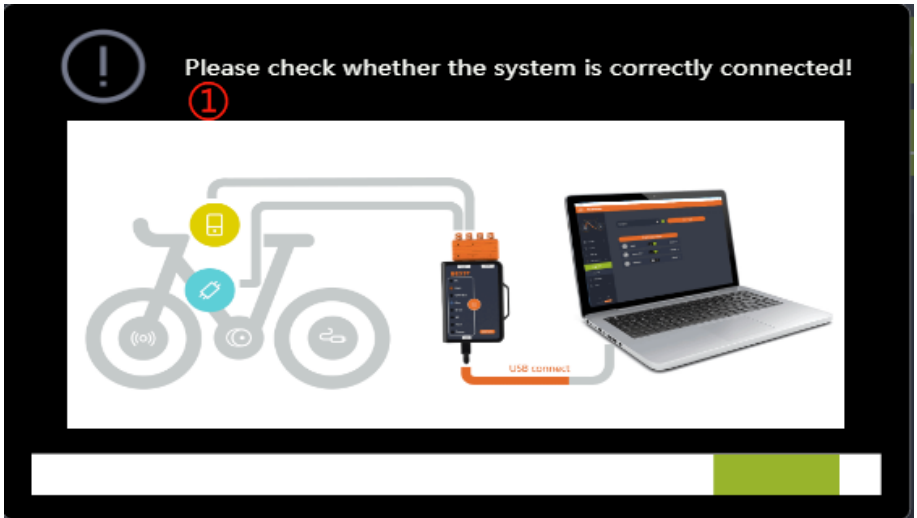

Fig 3-1 Component inspection
1. After logging in, the system will inspect the connection of all components. At the same time, it will prompt the user to check whether the system is correctly connected (Figure 3-1).